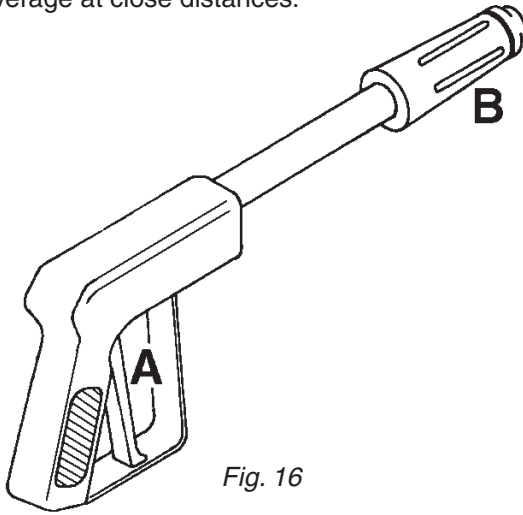

Fig. 16
8. Then depress the red handle **A** (Fig. 16) to spray fluid from the spraygun. Check the pressure on the system pressure gauge **3** (Fig. 15) and follow step **6** to adjust.
9. To adjust the spray pattern, turn the black handle **B** (Fig. 16) OUT for a narrow spray pattern for long distances and IN for a wide pattern for more coverage at close distances.